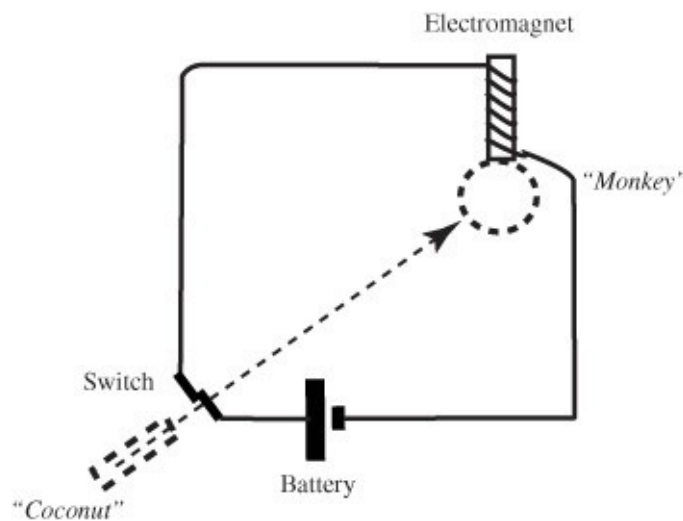

Figure 11-3 *Electrical connections for the monkey-and-coconut apparatus.*
1. Set up the apparatus, as shown in Figure 11-3.